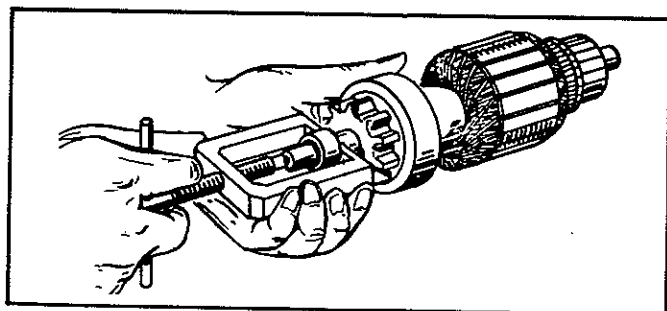

FIGURE 18-36. INSTALL OVERRUNNING CLUTCH
2. Install the overrunning clutch assembly, the ring on the armature shaft. Drive pinion stopper far enough on shaft to install stop ring. Then using a puller (Figure 18-36), pull stopper against ring.